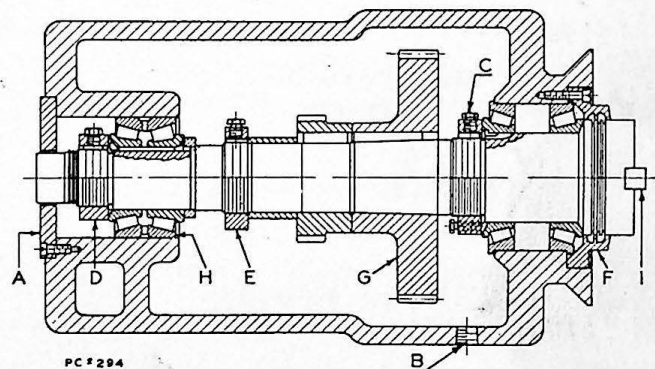

FIGURE 25
2. Remove cap "A" on rear of spindle and cap "F" on front of spindle. See Figure 25.
1. Remove pipe plug "B". See Figure 25.
The rear bearing of spindle can be adjusted in the same way, but it should not be necessary to adjust this bearing at any time. On High Speed Machines, spindle should have .0005 end play. This can be measured by using an indicator on end of spindle nose and lightly tapping spindle from front end and then rear end and reading indicator. Spindle will run at a temperature of 135° to 145° F. when properly adjusted and run at its highest speed. This temperature should be tested with a thermometer in one of the screw holes in spindle cap "F", Figure 25, page 21.